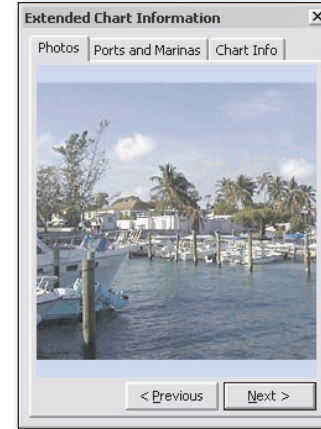

Figure 7.7 - Extended Chart Information Window
4. The Extended Chart Information window will open (**Figure 7.7**). Use this tabbed window to view all available data. Click on each tab to show photos, Port and Marina information, Chart Info and so forth.